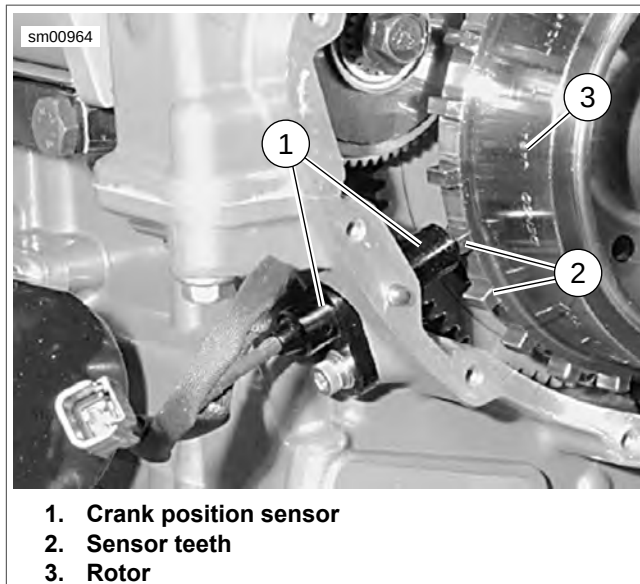

Figure 7-27. Rotor and Crank Position Sensor
See Figure 7-27. The crank position sensor (CKP) (1) is a variable reluctance (VR) sensor. It generates an AC signal by sensing the passing of 22 teeth (2) machined in the alternator rotor (3). Two consecutive teeth are missing in the flywheel to establish a reference point. This signal is sent to the ignition module and is used to reference engine position (TDC) and engine speed. The CKP sensor is located near the lower front left corner of the engine crankcase.